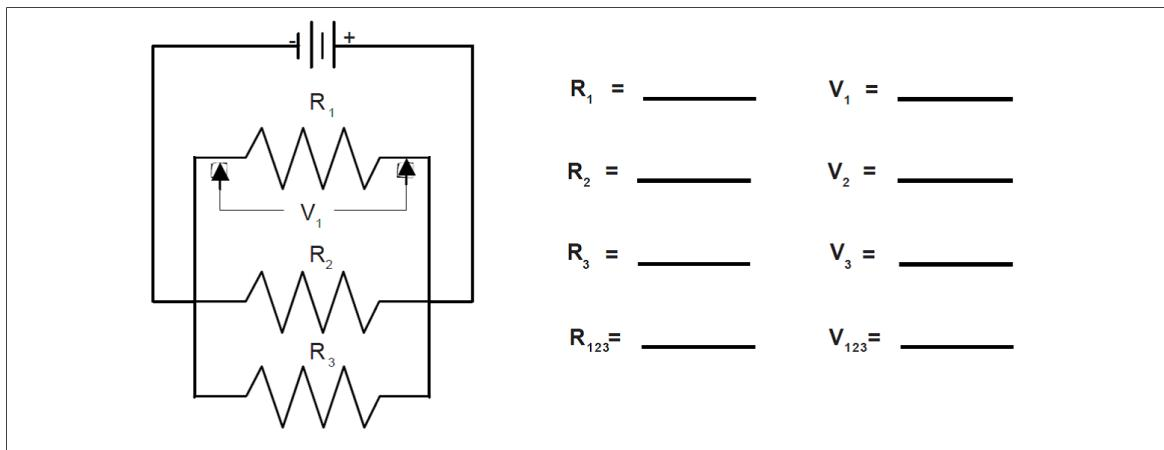

Figure 11: A diagram of the parallel circuit
- Now connect the parallel circuit below (see figure 11), using all three resistors. Measure the voltage across each of the resistors and the combination, taking care with the polarity as before. Note: keep all three resistors connected throughout the time you are making your measurements. Write down your values in figure 11.
6. Utilizing the data from figure 11, what is the pattern for how voltage distributes itself in a parallel circuit for equal resistances? Is there any relationship between the size of the resistance and the size of the resulting voltage?